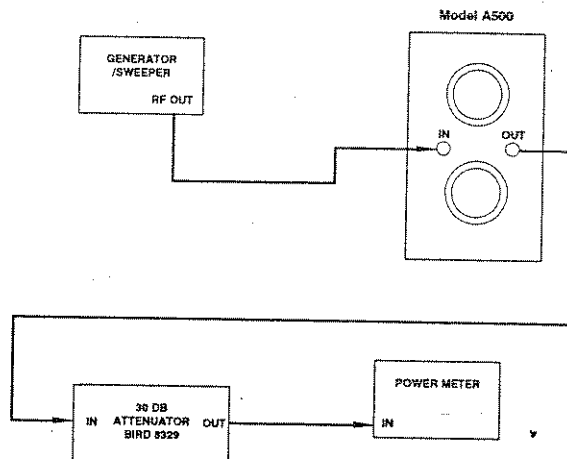

Figure 5-2. RF Output Power Test Set-Up
- a. Set-up the test equipment as shown in Figure 5-2.
- a. Set-up the test equipment as shown in Figure 5-2 for RF power output test.
- b. Using the set-up in Figure 5-2, measure and record the output power of the A500.